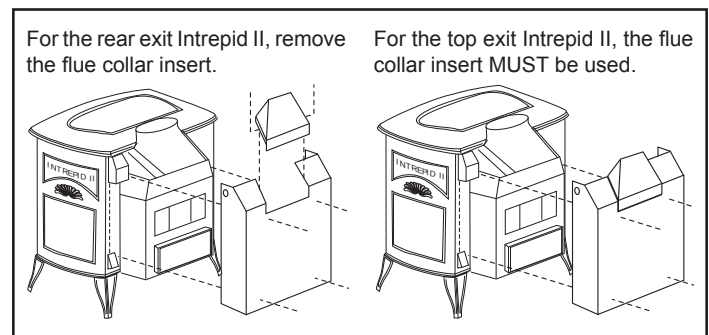

Figure 2 - Intrepid II flue collar insert.
- 2a. For the Intrepid II ONLY: The rear heat shield is packaged with the flue collar insert in place on the shield. If your Intrepid II will be installed with the flue collar in the top-exiting position, leave the insert in place. (Figure 2) If your stove will be installed with the flue collar in the rear-exiting position, remove the insert. (Figure 2) To remove the insert, remove the two sheet metal screws holding it to the rear heat shield. Tape the screws to the insert. Save the insert and screws for use if the stove installation is changed and the flue collar is in the top-exiting position.
5. For the Intrepid II, if the stove is in the top-exiting position, the insert should already be in place. If it is not, attach the insert now as shown in Figure 2.